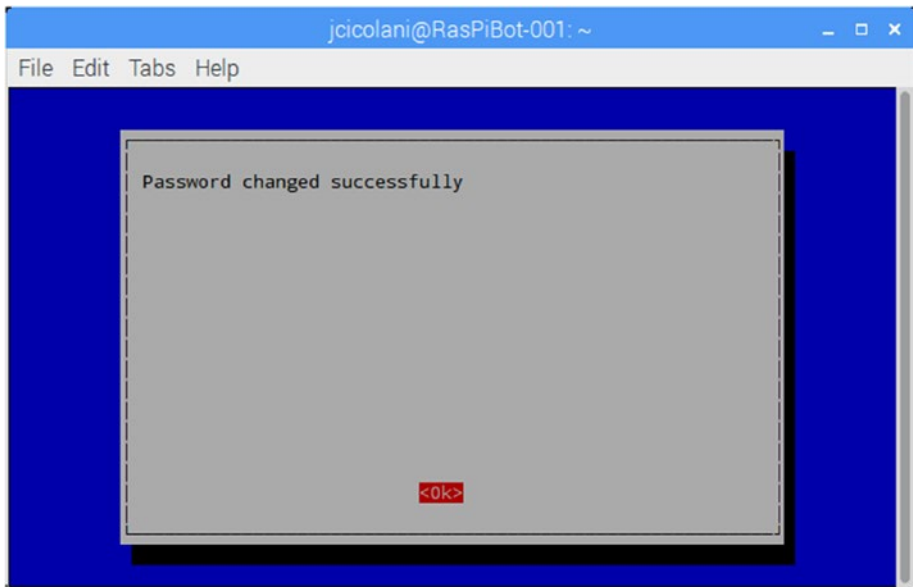

Figure 2-7. A password change confirmation in *raspi-config*
10. Confirm your new password and press Enter. This displays a confirmation that the password was successfully updated (see Figure 2-7).